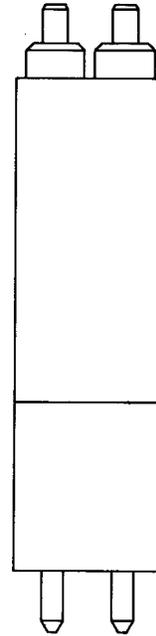

Fig. 4—453A Plug
**2.04 453A:** The 453A (Fig. 4) is a single-pair test plug which mates with the 302-type connectors. The 453A plug is used on the Main Distribution Frame (MDF) in central offices.